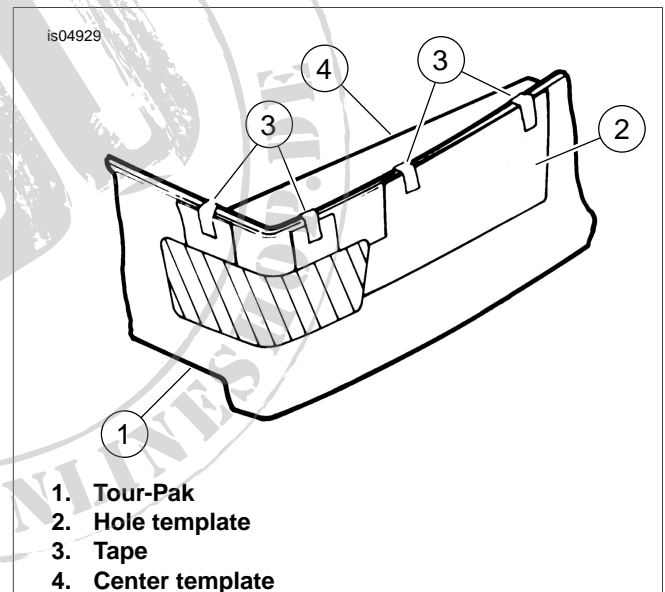

Figure 1. Mounting Templates
5. See Figure 1. Open Tour-Pak top and remove all loose contents. Remove Tour-Pak. Align the template as follows:
- a. Place center line template (4) along rear top edge of Tour-Pak (1) with curved end against one corner.